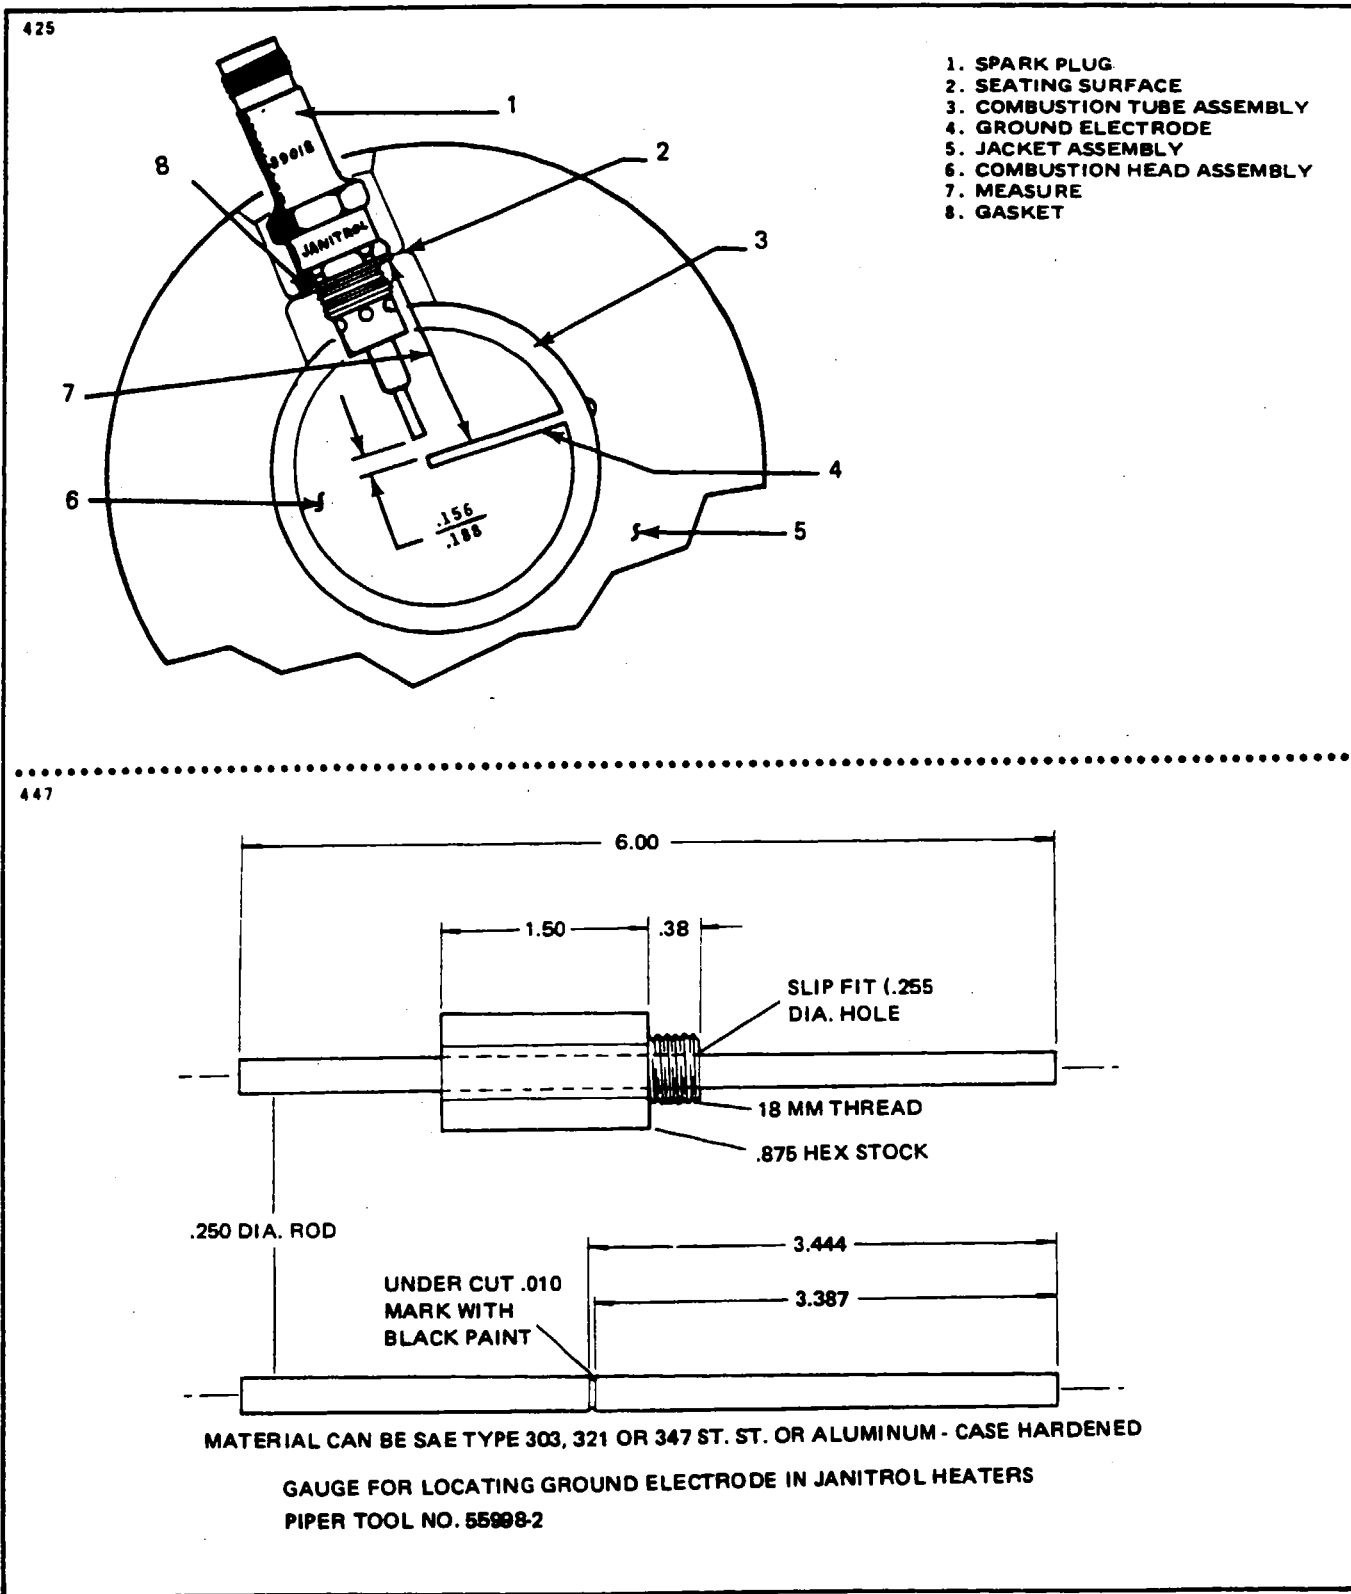

Figure 13-11. Spark Plug Gap Adjustment and Tool
any of the cleaning sand. Wipe this cavity out thoroughly with a cloth wet with carbon tetrachloride. If after cleaning, the spark plug porcelain is white, and the electrode is not eroded, proceed to check the ground electrode in the heater and adjust the spark gap in accordance with Paragraph 13-37, Step c, and Figure 13-11.
c. Spark Gap Check and Adjustment: (See Figure 13-11.)
1. Fabricate or purchase from Piper the special tool from dimensions given in Figure 13-11.